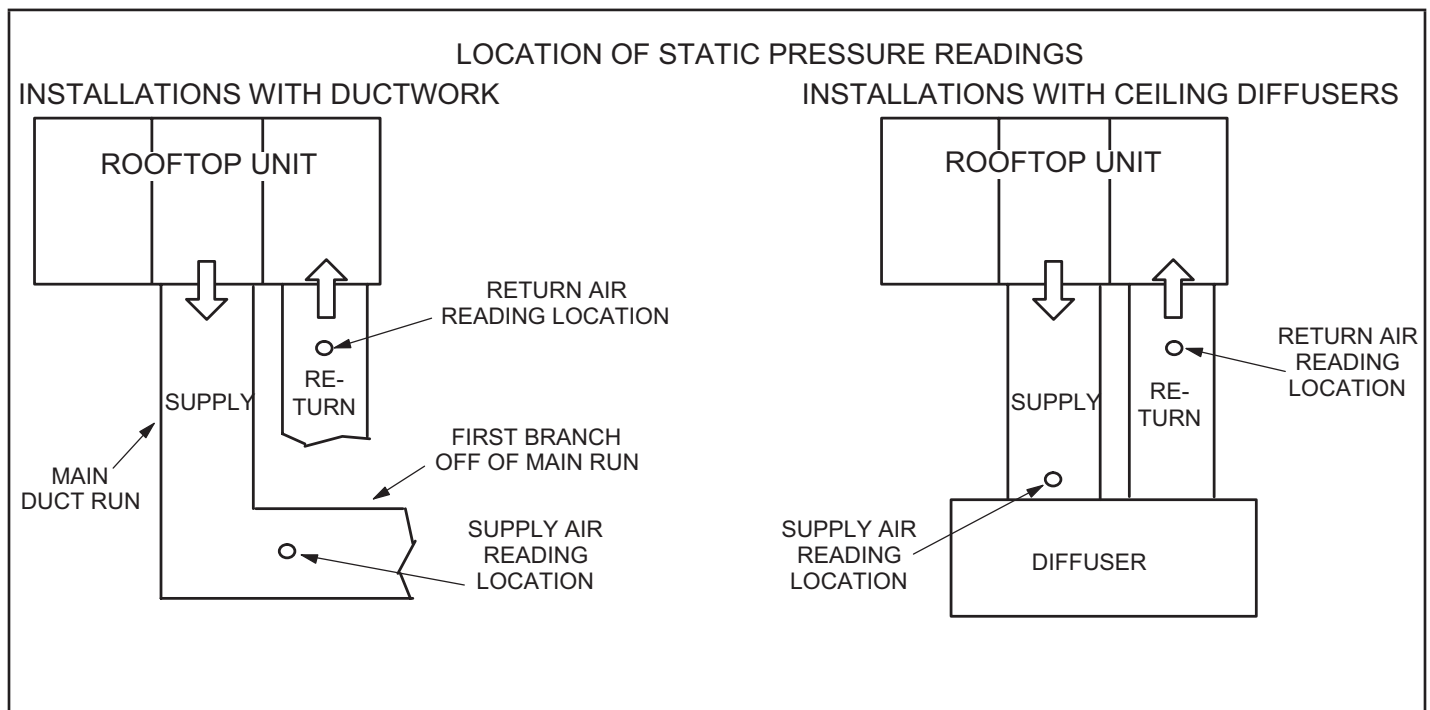

FIGURE 18
- 2 - With all access panels in place, measure static pressure external to unit (from supply to return). Blower performance data is based on static pressure readings taken in locations shown in FIGURE 18. **NOTE** - Static pressure readings can vary if not taken where shown.